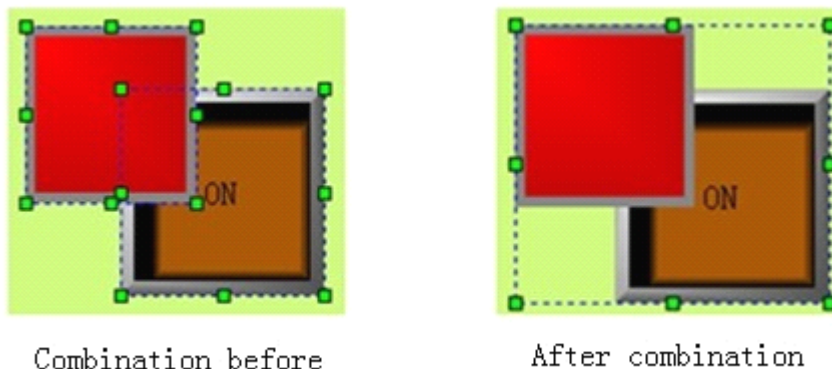

Figure 4-5: Contrast before and after assembling
- First, choose the graph objects to be assembled, then press “Assemble” command in the Edit menu, or  button in the tool bar, or call the right click menu and choose Assemble command in the Assemble option. Figure 4-5 shows the contrast before and after assembling.